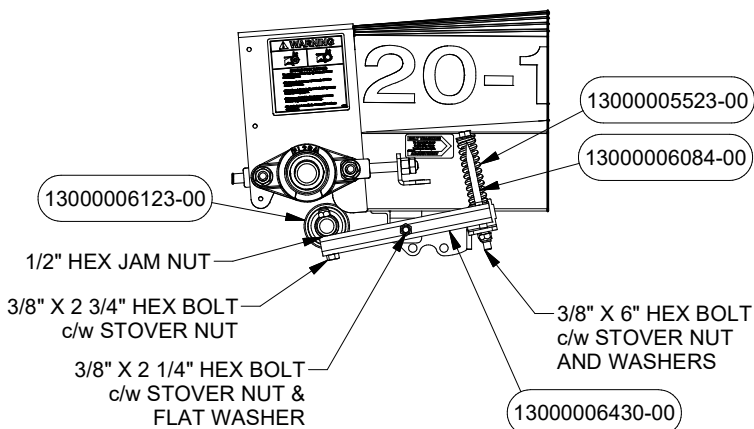

FIGURE 6
14. Attach the Roller PN# 6123 to the Pinch Tube PN# 6430 using Hex Bolt c/w Nylock Nut (see Figure 6). Fasteners can be found in Bolt Bag PN# 6784.